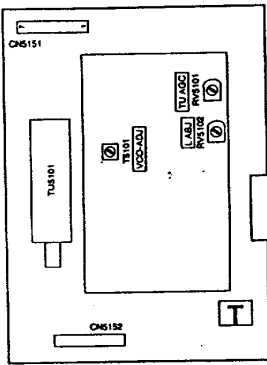

Fig. 4-5 - T Board Component Side -
7. The Menu as indicated in Fig 4-5 will appear on the screen.